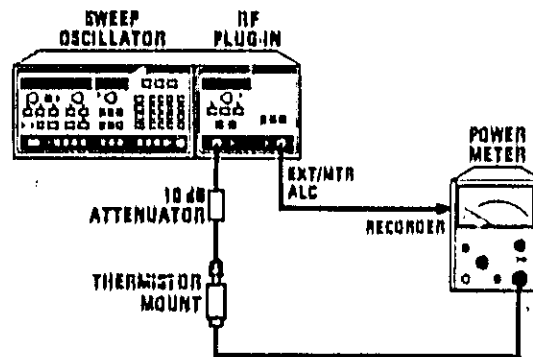

Figure 8-26. Power Meter Leveling Setup
- Attempt to level the power externally using the HP 432A/B/C, 436A, or 438A Power Meter as shown in Figure 8-26. Select MTR leveling, and enter a 100 second sweep time. If the RF power is now leveled, the failure is most likely in the detectors or the Detector Selection Switch, A4U6. Refer to the following paragraph. If this does not prove to be the case, the problem may be in the two analog switches U3B and U6A. It may be necessary to perform the ALC adjustments in Section V of this manual.